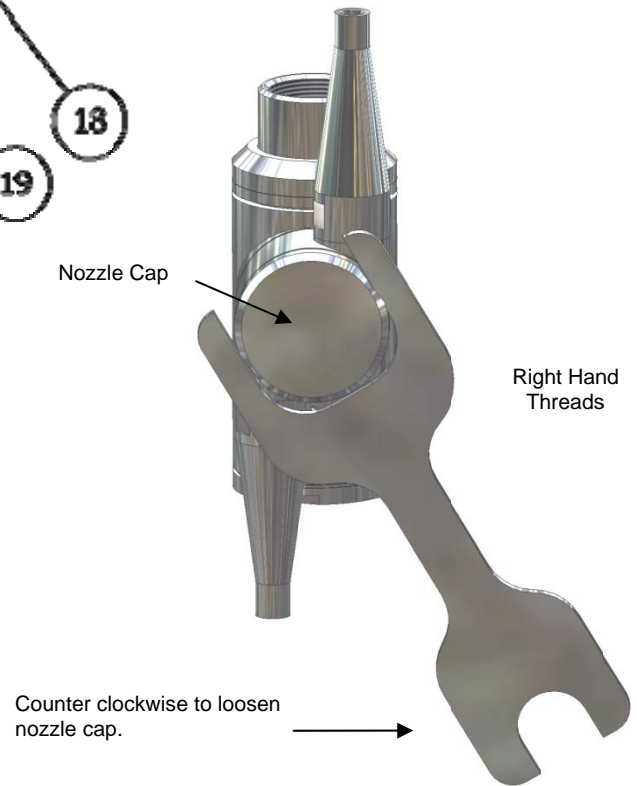

Figure 17
2. Remove position 28 from position 15 using spanner wrench (see **Error! Reference source not found.**) and by turning counterclockwise (this is a right-hand thread) until removed; see Figure 17 for additional information.